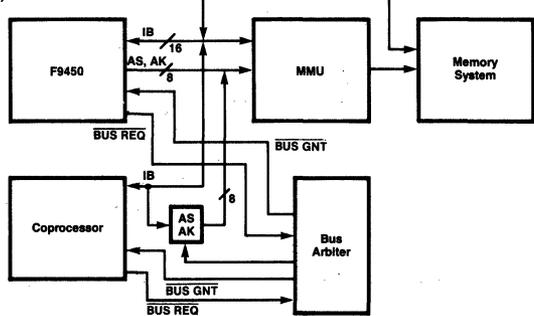

Figure 6.16 F9450/Coprocessor Configurations
Figure 6.16 illustrates two typical configurations incorporating a coprocessor, which is a bus contender under control of the bus arbiter. If the system includes an MMU, an additional latch is added to provide an Address State (AS) and Access Key (AK) for the coprocessor.